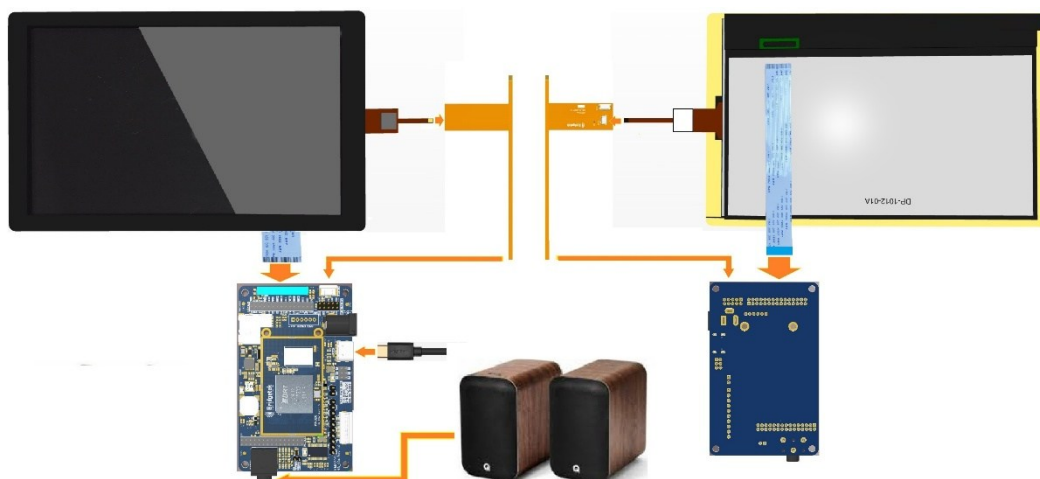

Figure 14 - IDK-BT820-101A Hardware Setup
Figure 14 illustrates the hardware configuration of the IDK-BT820-101A. Follow the steps below to assemble and configure the evaluation kit.
2. **Touch Panel:** As illustrated in Figure 14, connect the touch flex cable from the LCD panel to connector CN3 on the CTP converter board with the contact pads facing downward. Then connect the opposite end of the converter board to connector CN9 on the VM820C, also with the contact pads facing downward.